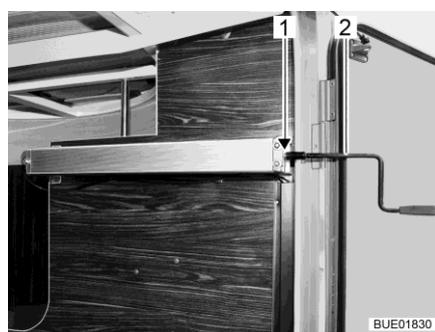

Fig. 131 Crank in the rear garage
- Attach the crank (Fig. 131,2) onto the journal (Fig. 131,1).